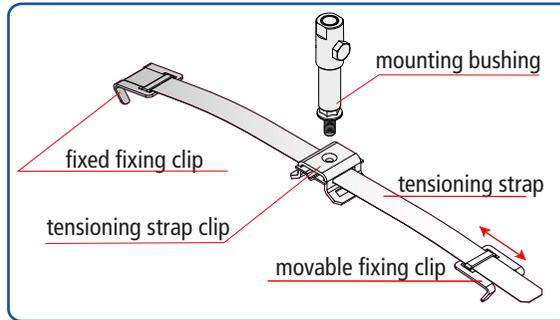

Fig. 1
- ➔ A fixed fixing clip is provided on one end of the tensioning strap (see Fig. 1 and 2).